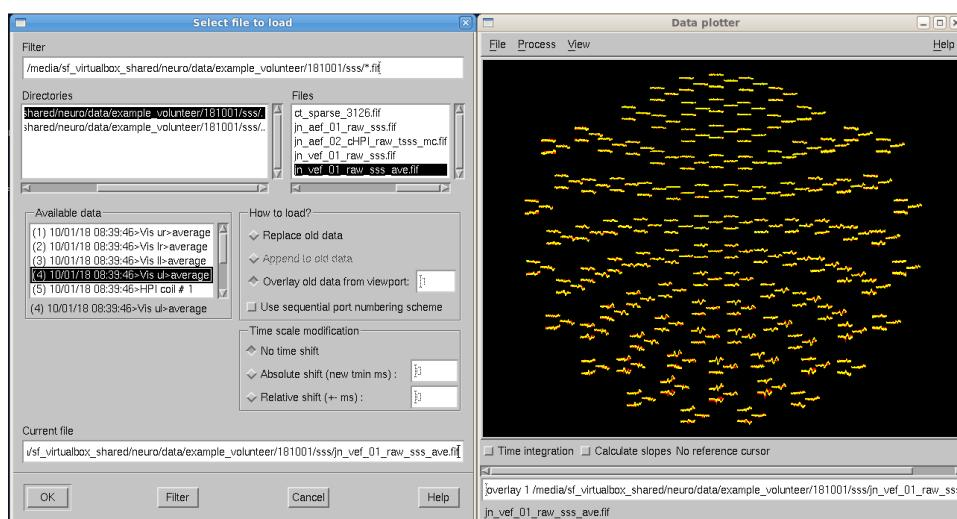

Figure 21: *Xplotter* data loading and overlaying.
- Select **OK**. The selected data is now visible in a topographical plot (Figure 21).
- The second dataset is overlaid with the first one in the topographical plot (Figure 21).
- The *Xplotter* display layout shows the channel-level epoch waveforms in a topographical view, nose up, right on right (Figure 21). The curves are organized in triplets, where the three channels are in the same physical location:
- Open the FIFF file again, **File -> Load data**, and select **Absolute shift** (see Figure 21).